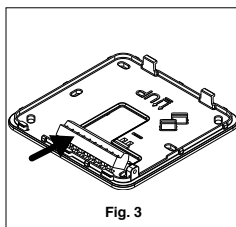

Fig. 3
- Remove the control connectors by exerting pressure as shown in fig. 3. With the control connectors not in place prepare the electrical connections between this and the electric control box panel of the fan coil as shown in the wiring diagram in fig. 10. For the specific connection between the control and the fan coil unit refer to the diagram shown on the unit.